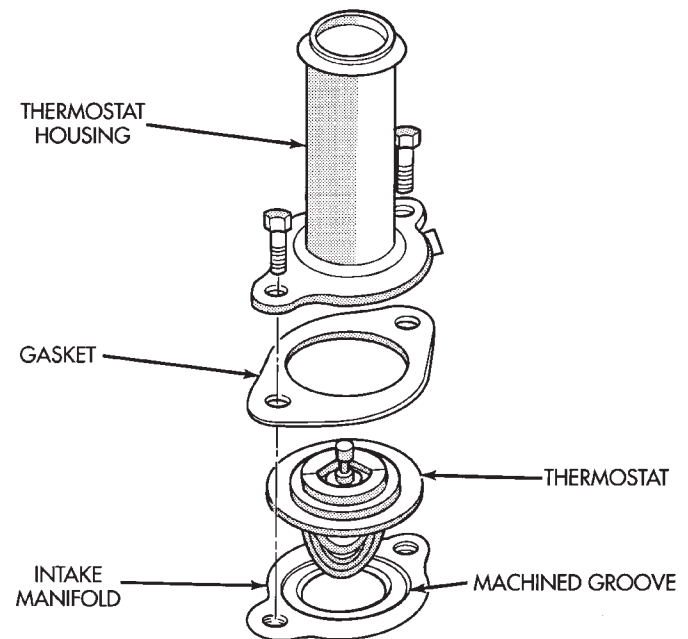

Fig. 69 Thermostat—3.9L V-6 or 5.2/5.9L V-8 Gas Engines
- (4) Remove upper radiator hose clamp. Remove upper radiator hose at thermostat housing.
- (5) Position the wiring harness (behind the thermostat housing) to gain access to thermostat housing.
- (6) Remove thermostat housing mounting bolts, thermostat housing, gasket and thermostat (Fig. 69). Discard old gasket.
(1) Clean mating areas of intake manifold and thermostat housing.
(2) Install thermostat (spring side down) into recessed machined groove on intake manifold (Fig. 69).
(3) Install gasket on intake manifold and over thermostat (Fig. 69).